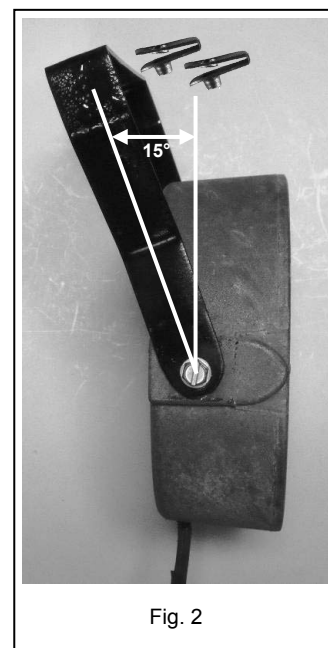

Fig. 2
1. Fig. 2. Prepare the speaker/bracket assembly by installing the Clip On nuts over the holes on the top of the bracket. Then mount the bracket to the speaker using the bolts supplied with the speaker. Set the 15 degree angle between the speaker and the bracket as shown and tighten the bolts. The speaker wire may be oriented up or down depending on desired wire routing.